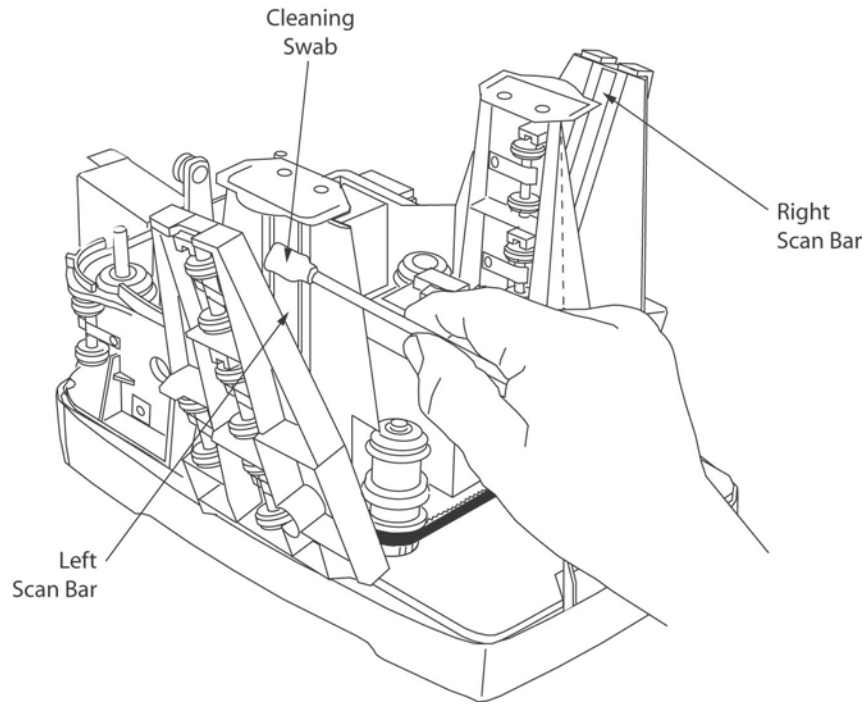

Figure 3-8. Cleaning the Scan Bars
- 3 Clean each **Scan Bar** with Cleaning Swab, P/N 97200078, as shown in Figure 3-8.